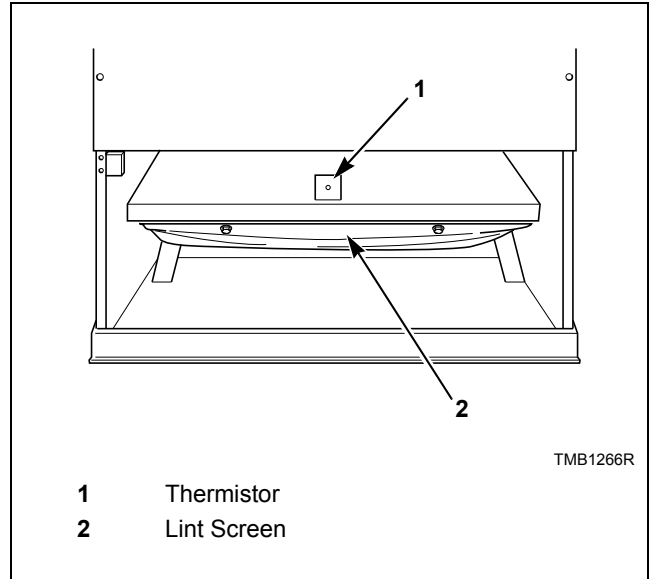

Figure 41
- e. Wipe lint off of the thermistor. Refer to *Figure 41*.